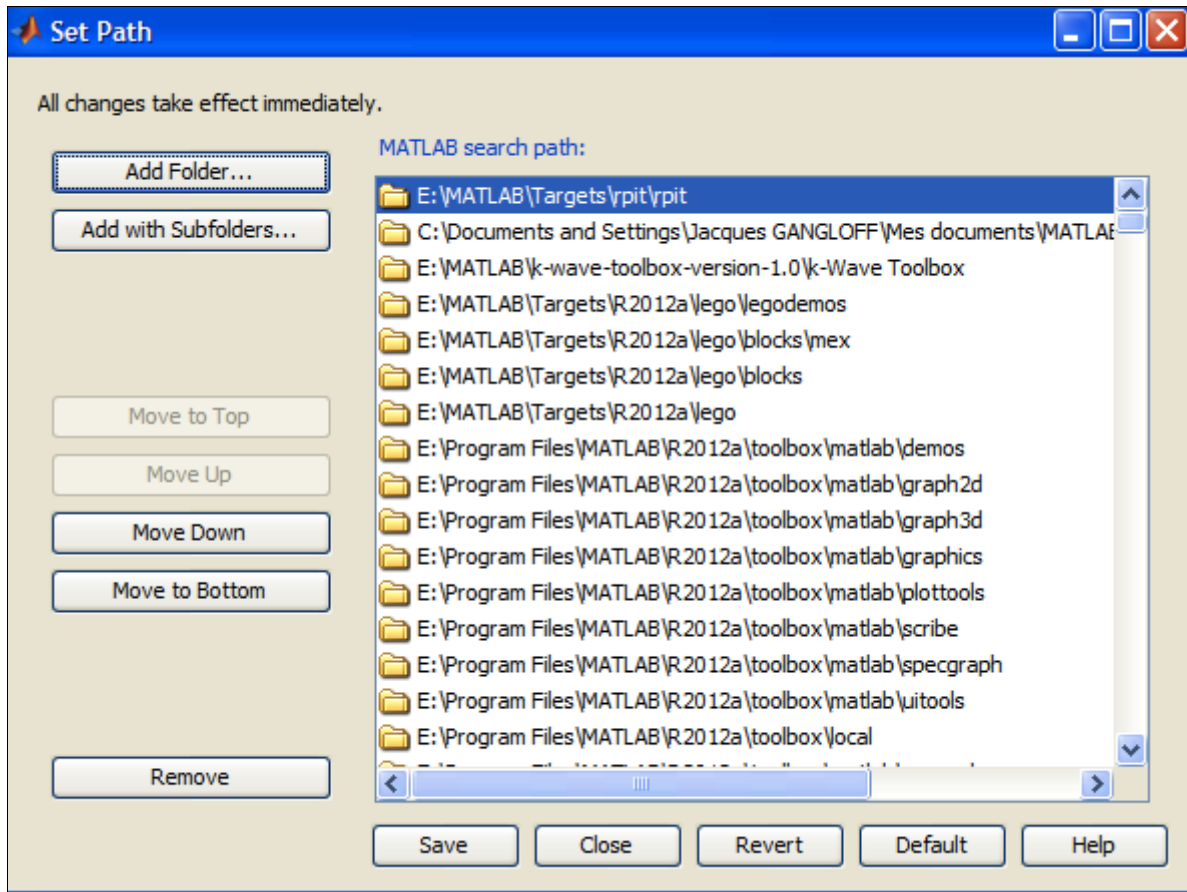

Figure 3 - Defining a new path
2. Add this last path to Matlab's known paths from the "File->SetPath" menu item (see Figure 3).